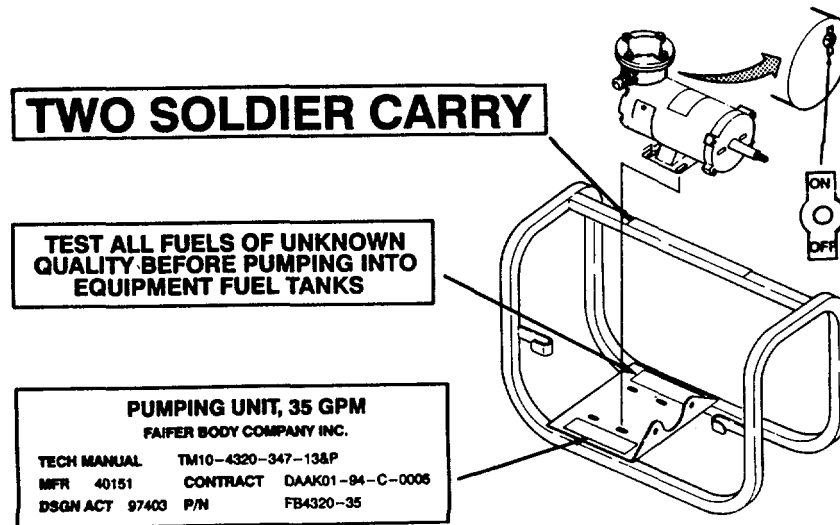

Figure 2-6. Decals and Instruction Plates.
- c. Remove nozzle assembly (18) from discharge hose assembly (16). Connect dust cap (15) onto the discharge hose assembly and the dust plug (17) into the nozzle assembly.
- d. Remove discharge hose assembly (14) from the pump discharge male coupling (12). Connect dust cap (11) onto pump discharge male coupling and dust plug (13) into to discharge hose assembly.
- e. Remove suction strainer (10) from suction hose assembly (9). Connect dust plug (8) into suction hose assembly.
- f. Remove suction hose assembly (7) from pump female suction coupling (5). Connect dust cap (6) onto suction hose assembly (7) and connect dust plug (4) into pump female suction coupling (5).
- g. Remove grounding cable (2) from pump (3) and ground rod assembly (1).
- h. Drain fuel from pump housing by opening drain cock (22) on side of pump.
2.13. DECALS AND INSTRUCTION PLATES. To assist the operator in the use of the pump assembly, various decals and information plates have been placed on the unit. The location of each of these decals or instruction plates and the wording of each one is shown in Figure 2-6.